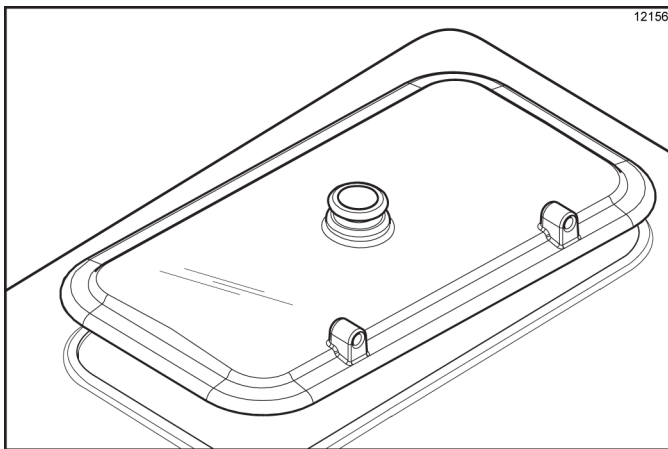

Figure 6-43
10. Install the agitator back onto the agitator driveshaft housing. Replace the hopper cover. (See Figure 6-43.)